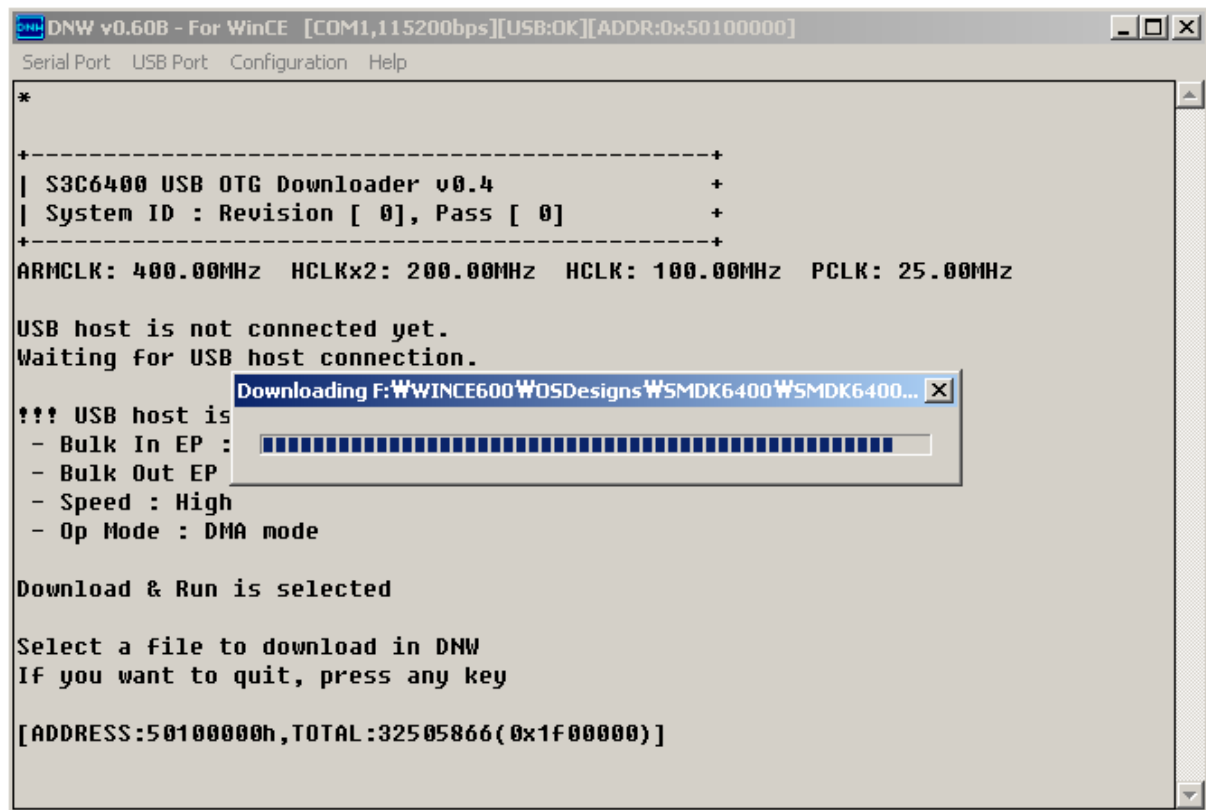

Figure 5-7 Downloading Status of NK.nb0
10. Once download begins, a download status bar appears on your screen as shown in figure 5-7.